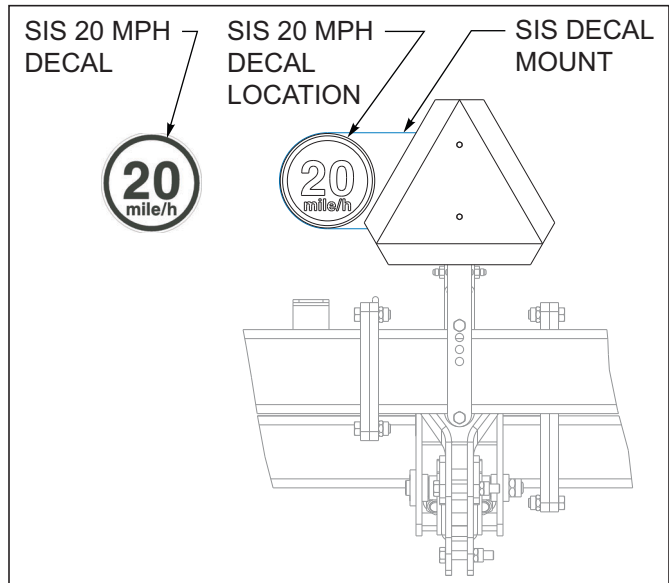

Figure 3-1: SIS 20mph Decal Installation
8. Install the smv, SIS decal bracket to smv mount with 1/4 x 1 bolts and 1/4 lock nuts. Install the SIS 20mph decal in location shown See Figures 3-1.